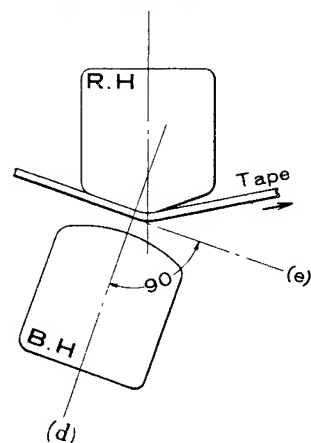

Fig. 3
- C. Clearance of the Bias Head (See Fig. 3, 4)